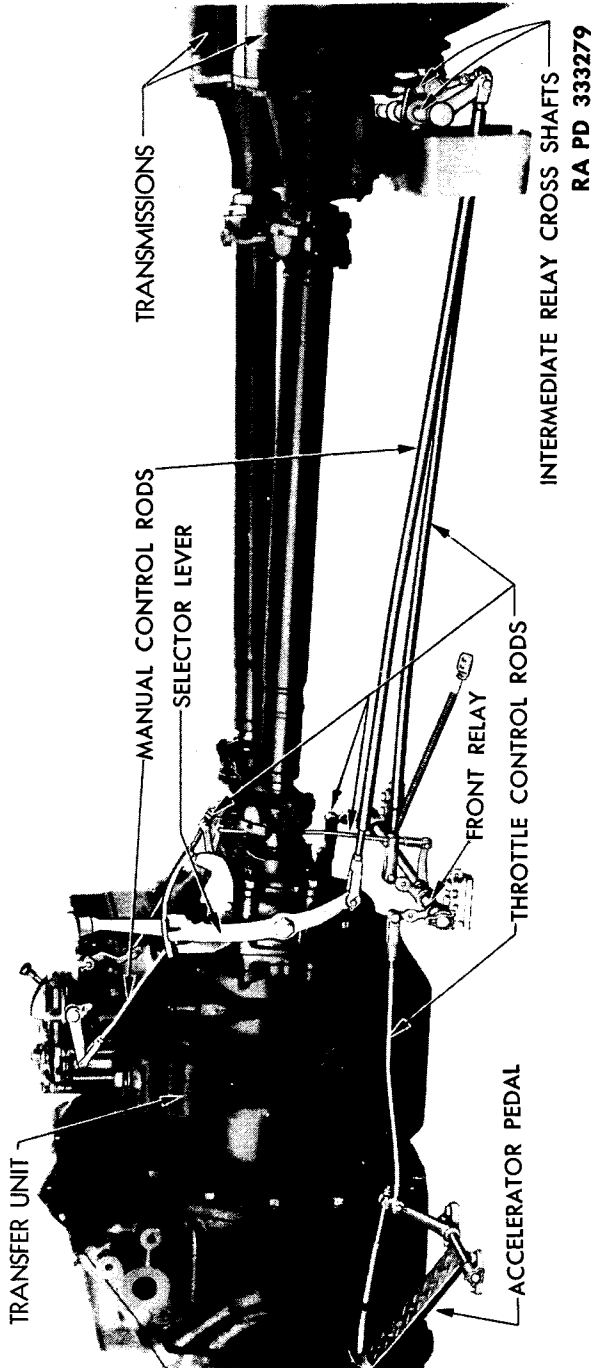

Figure 89 — Transfer Unit and Transmission Control Linkage
(1) **DISCONNECT RODS AT SELECTOR LEVER.** Disconnect rod between selector lever and transfer unit reverse servo release lever at selector lever end (fig. 89). Place selector lever in "REV" position (make sure that it is in detent position shown on quadrant by the arrow) and disconnect rod at lower end of selector lever.